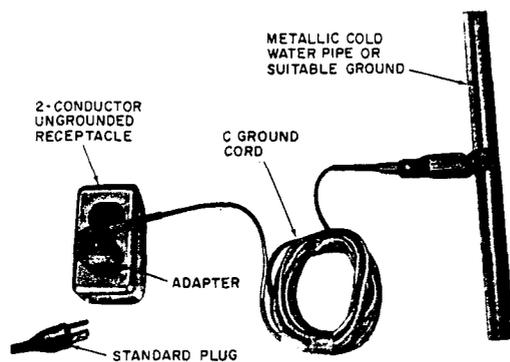

Fig. 9--Ungrounded Outlet Box
- (b) Extend and attach the grounding cord (Fig. 9) to the grounded object, making certain that a good solid metallic connection is made on both ends.